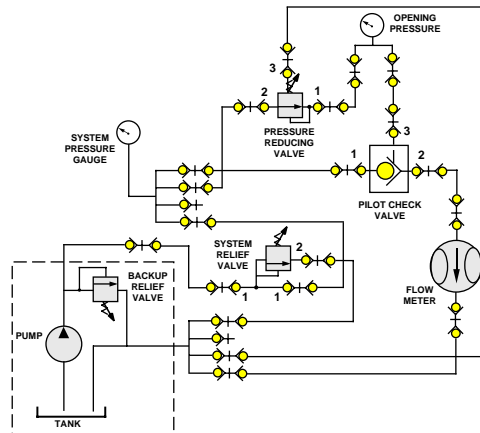

Fig. 3.5.31 Circuit
7. Reconstruct the circuit as shown in Figure 3.5.31.